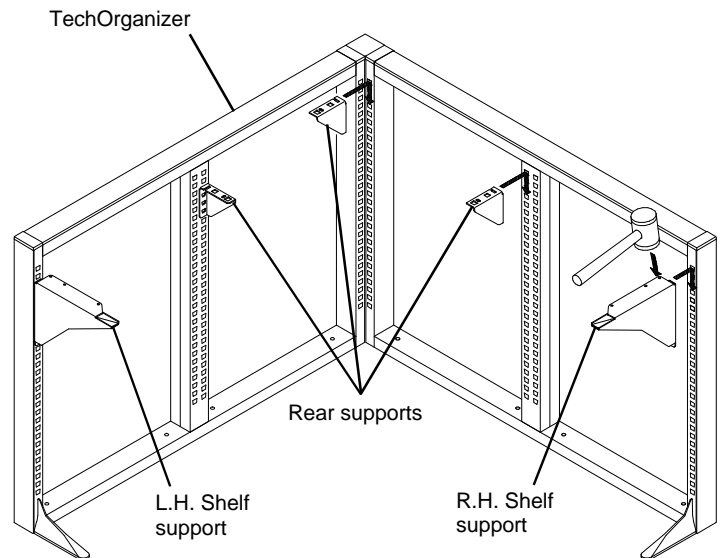

Figure 1
On Shelf. Position the **Shelf Supports** as shown in **Figure 1**. Insert the hooks on the back of the supports into the Slotted Standards and push down. To ensure that the hooks are seated, tap the top rear of the Shelf Supports with a plastic mallet or equivalent.
2. Install the **Rear Supports**. Be sure to locate them at the same height as the Shelf Supports. See **Figure 1**.